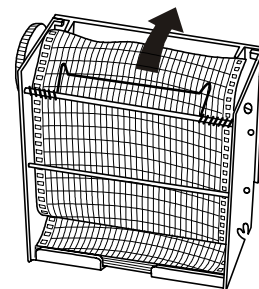

Fig. 3
4. Remove 2 screws fixing the battery mounting plate. (Fig. 3) Disconnect the battery connector (Fig.4)
3. Set a new recording paper in place on the rear bottom of the cartridge. Set the hole on the chart in the cog of the recording paper driving assembly and feed the recording paper in the direction of the arrow by driving the cog wheel. (Fig. 3)
3. Open the case cover of battery at the left bottom (Fig. 3). Set a battery in the case with its minus pole positioned backward.
Turn the power switch ON. The pen will move inward on the circular recording paper and stop temporarily at the 0% position (equivalent to the 40°C line). Then the pen will move to the position which indicates the measured temperature. (Fig.3)